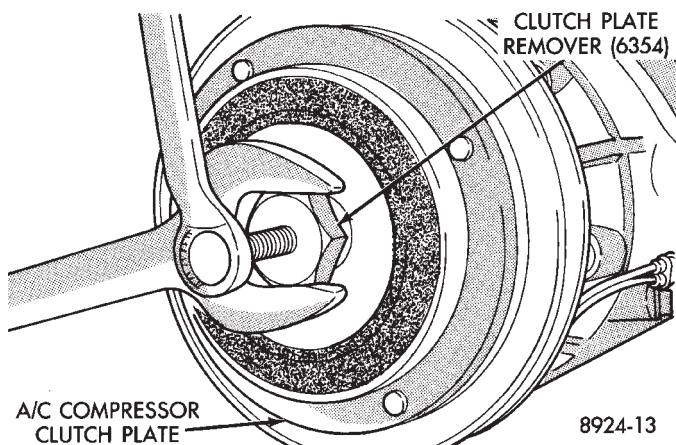

Fig. 4 Remove Front Plate
- (2) Using a Clutch Plate Remover (6354), remove the clutch front plate from the compressor (Fig. 4). When installing the front plate, select the proper shims to achieve .5 to .9 mm (.020 to .035 inch) air